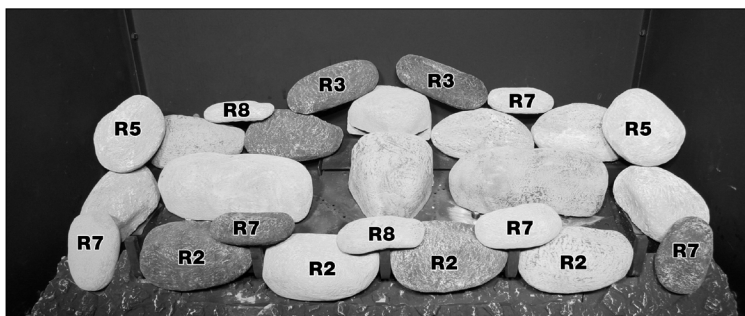

Figure 9.7, Completed Installation
9. Place the rest of the rocks as shown in Figure 9.7. Distribute additional rockwell embers once completed.